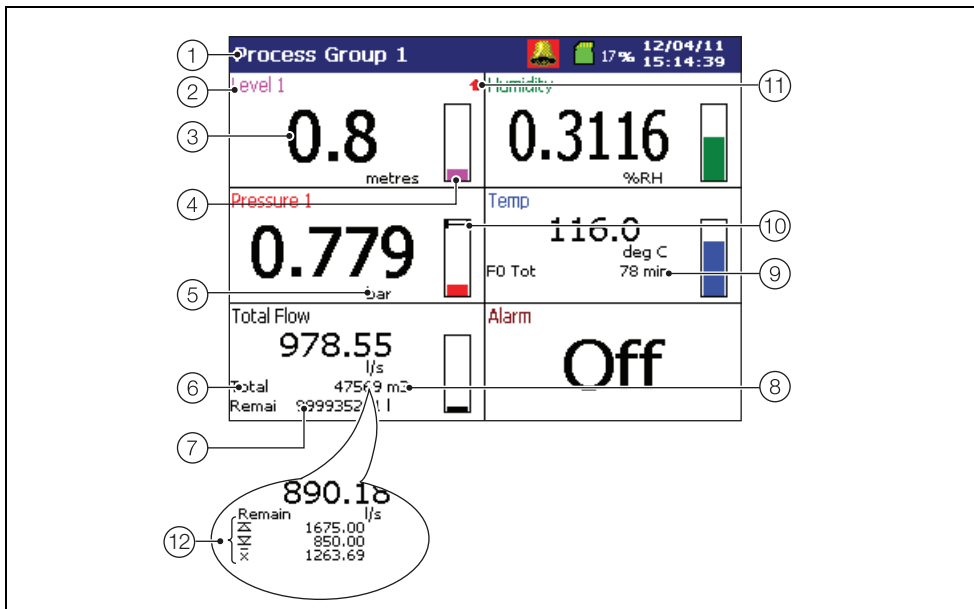

Fig. 4.5 Indicator View
Key to Fig. 4.5:
Note. Active unacknowledged alarms in the current process group are identified by a flashing Alarm Event icon to the right of the associated channel reading. Active acknowledged alarms are identified by a continuous Alarm Event icon – see item ⑩ in Fig. 4.5, page 38.